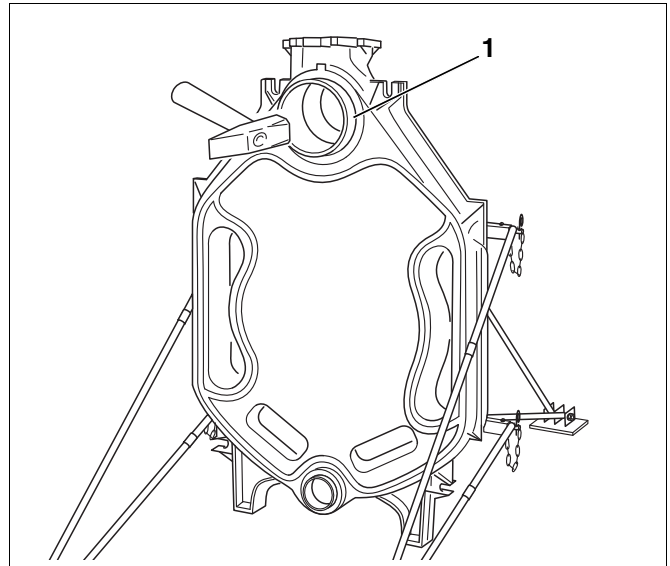

Fig. 14 Driving nipples home
- ▶ Insert nipples directly into the upper (size 4, 181/70) and lower (size 1, 82/50) hub on the rear section and hammer in crosswise with strong blows. Once hammered in, the upper nipple (Fig. 14, [1]) must protrude approx. 45 mm and the lower nipple approx. 35 mm out of the corresponding hubs.